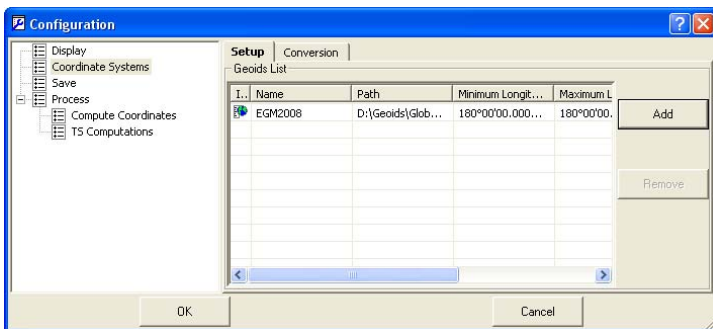

Figure 2-17. Added Geoids
5. Repeat these steps for any other geoids. The geoids will be listed in the right pane (Figure 2-17).